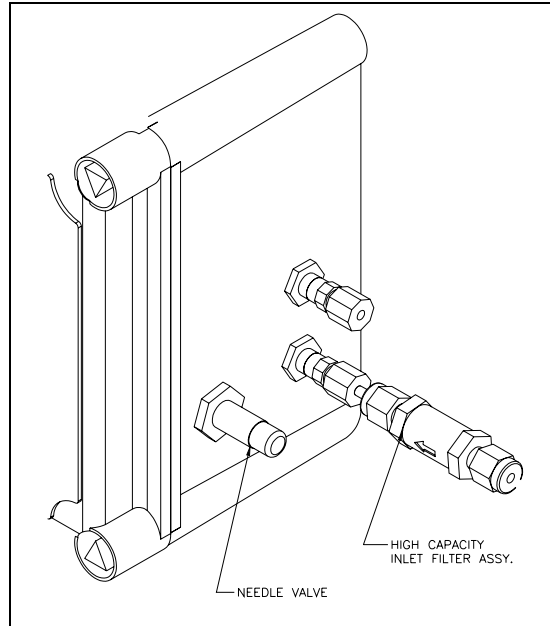

Figure 6. Needle Valve Location
6. See Figure 6. The flow rate is set by adjusting the needle on the 5000TOCe Sensor. NOTE: Clockwise (CW) to decrease flow, counterclockwise (CCW) to increase flow.